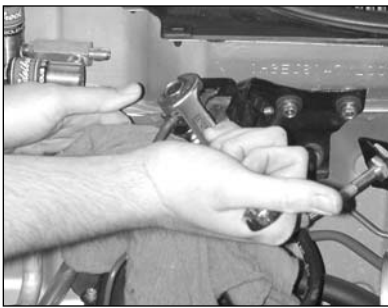

Figure 1
4. Relieve any residual fuel pressure in the fuel system. Remove the fuel filler cap, then relieve fuel pressure by loosening the banjo bolt connecting the fuel line to the fuel filter. Place a shop towel or rag over the wrench while loosening the banjo to soak up any fuel spray (**See Fig. 1**). When loosening or tightening the banjo bolt on the fuel filter can, use a 19mm wrench on the hex of the fuel filter can to counteract the torque of loosening or tightening the banjo bolt. This will prevent the fuel filter can and bracket from being improperly loaded during loosening or tightening at the banjo bolt. If your vehicle has a special banjo bolt at the fuel filter, which has a service bolt in the top of the banjo bolt, use a box end wrench to loosen the service bolt at the fuel filter while holding the banjo bolt with another wrench. Keep the banjo or service bolt loose until all pressure is relieved.